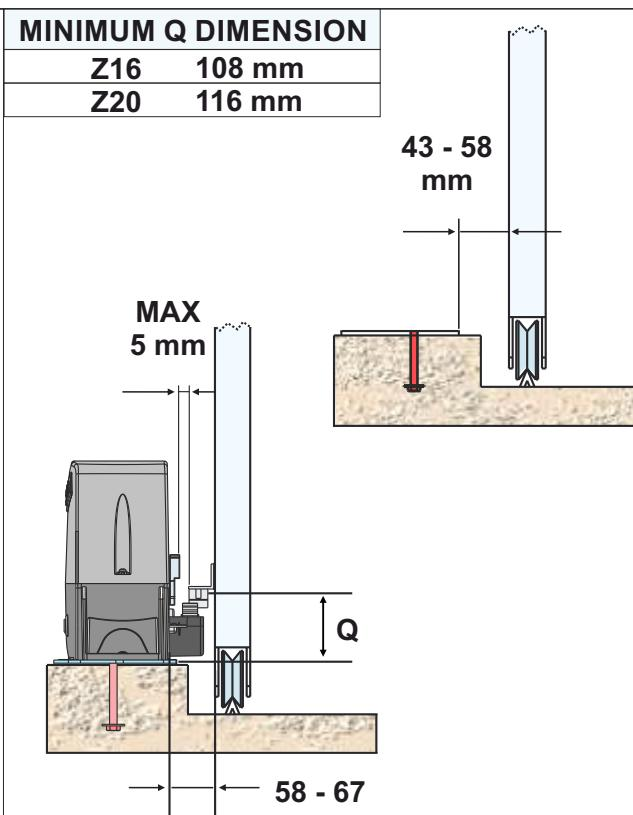

Fig. 4
- 4.3. Before concreting the plate, make sure that it is perfectly leveled and that the distance of **58 - 67 mm** as shown in Fig. 4 is respected
6.2. Fix the gearmotor to the foundation plate using the 2 nuts provided, adjusting its lateral position - Fig. 7 - to comply with the dimensions indicated in Fig. 4